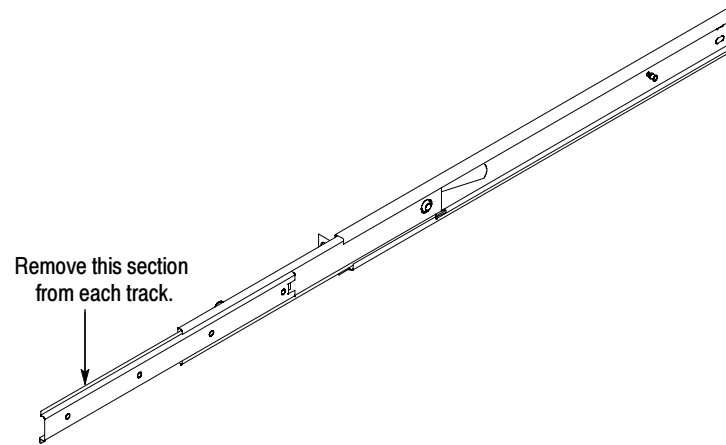

Figure 12: Remove instrument tracks
- a. Remove the front (chassis) section of each of the two tracks. See Figure 12.